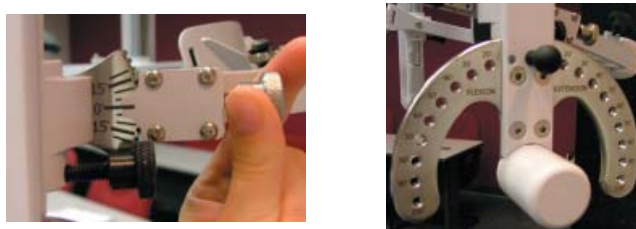

Figure 6-44. Set halo angles
Step 10. Set the halo to 0 degrees with respect to the horizontal. Make sure the flexion/extension angle is set to 0 degrees as well (Figure 6-44).